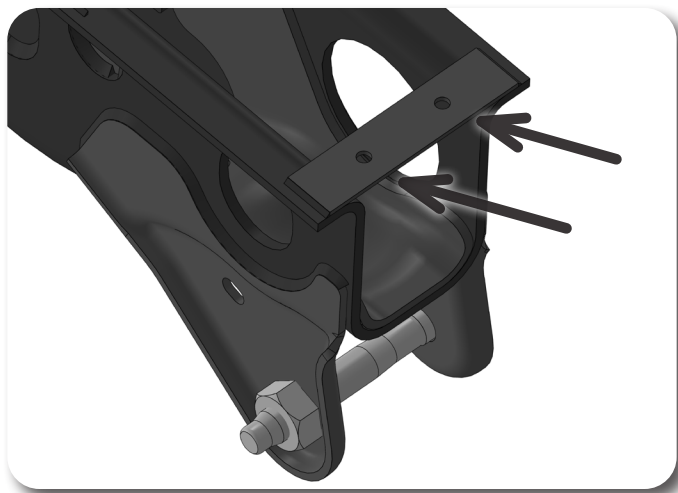

Figure 48
72. Locate the four small holes (two per side) and the bottom tab of the factory torsion bar cross member. **Figure 48** Drill the holes out to 5/16".